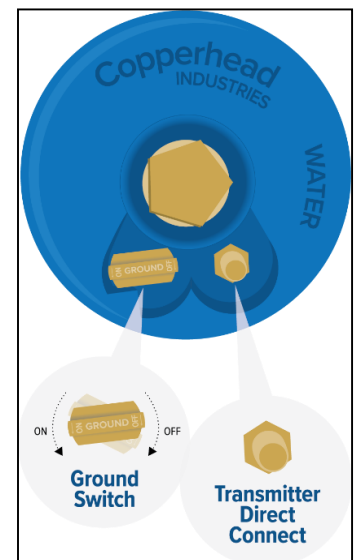

Fig. 3
10. Ensure Ground Switch is turned completely to 'ON' (Fig. 3)